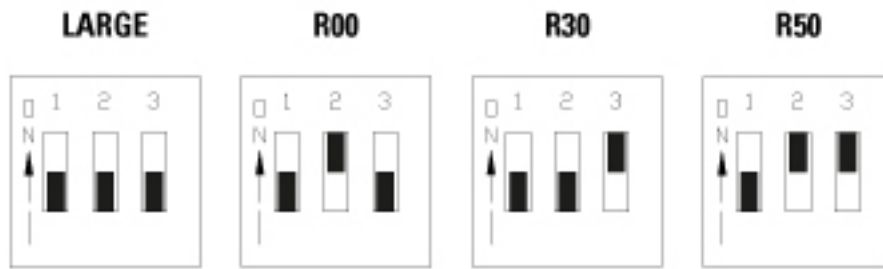

Fig. 14
2. Toggle the RAID mode switches to the desired RAID mode according to the following chart (fig. 14):